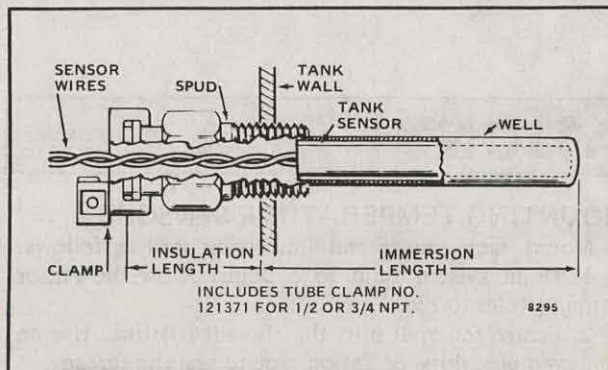

FIG. 1—TANK SENSOR INSERTED IN IMMERSION WELL.
Immersion Well—for mounting sensor in storage tank. See immersion well table and Fig. 1.
1. Drain system fluid to a point below the sensor fitting. (Refer to Fig. 1.)
1/2 inch conduit in the bottom of the controller case (Fig. 1).